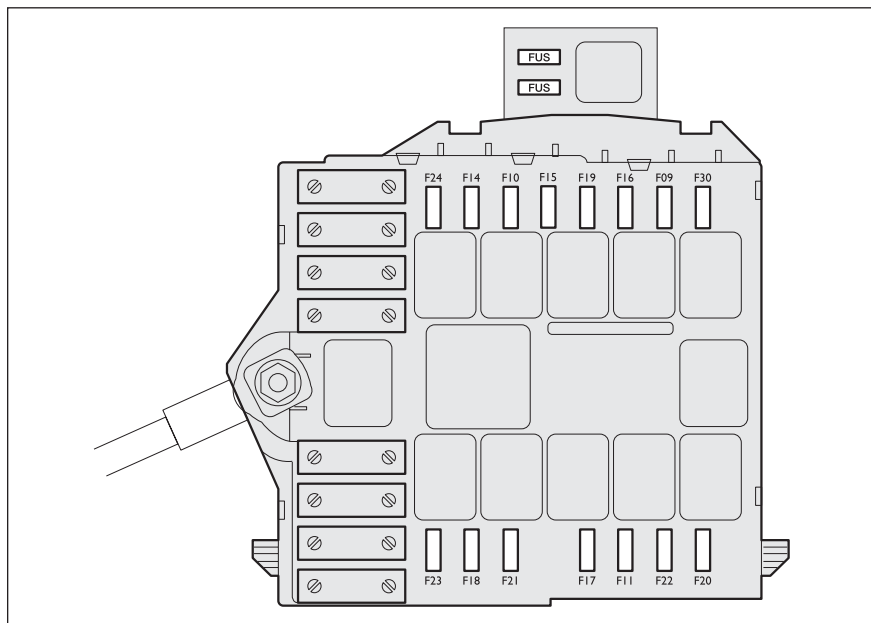

fig. 39
## Fusebox next to the battery fig. 39
**Fusebox in engine compartment fig. 39****USERS**